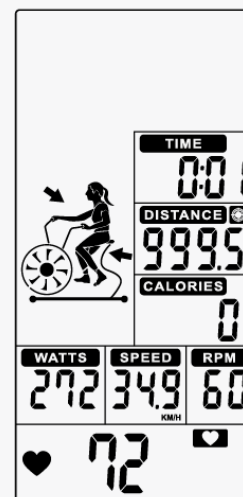

Figure 42
3. Pre-set DISTANCE value counts down, TIME, CALORIES, WATTS, SPEED, RPM start to count up. (Figure 42)